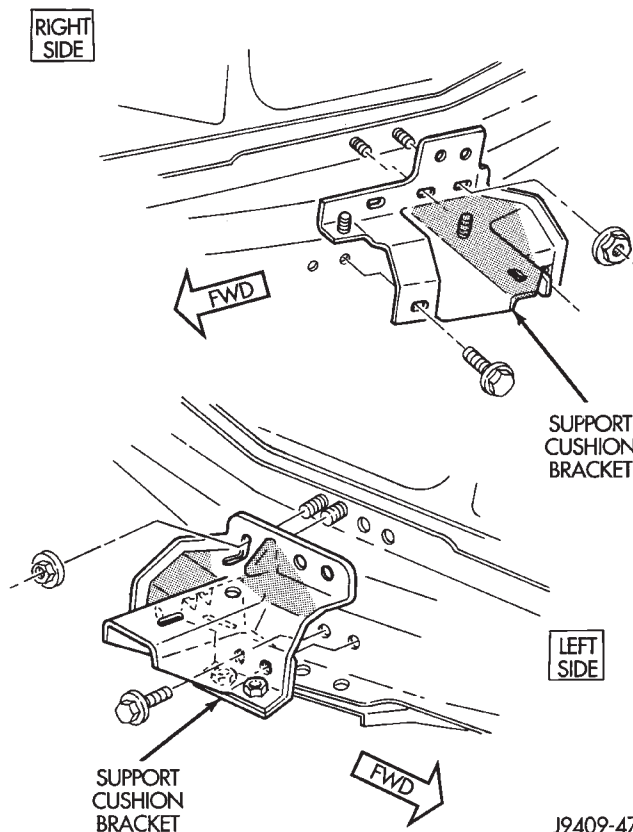

Fig. 26 Support Cushion Bracket
- (2) If the support cushion bracket was removed, position the bracket onto the lower front sill (Fig. 26). Install support cushion bracket bolts and nuts. Tighten the bolts to 54 N·m (40 ft. lbs.) torque. Tighten the nuts to 41 N·m (30 ft. lbs.) torque.